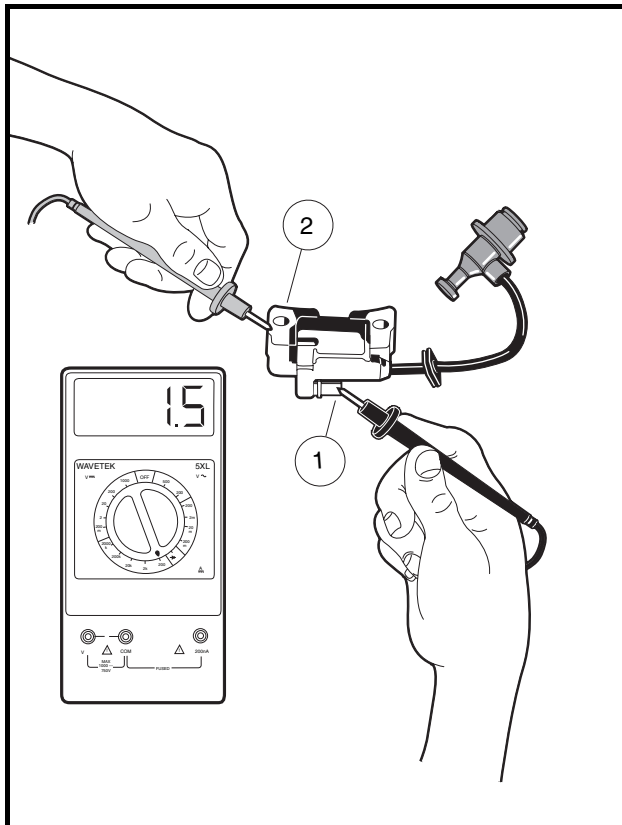

Figure 11-30 Primary Coil Resistance – Bench Test
- 2.1. Place the black (–) probe of the meter on the terminal on the ignition coil (1), and place the red (+) probe on the core (2) (**Figure 11-30, Page 11-27**).